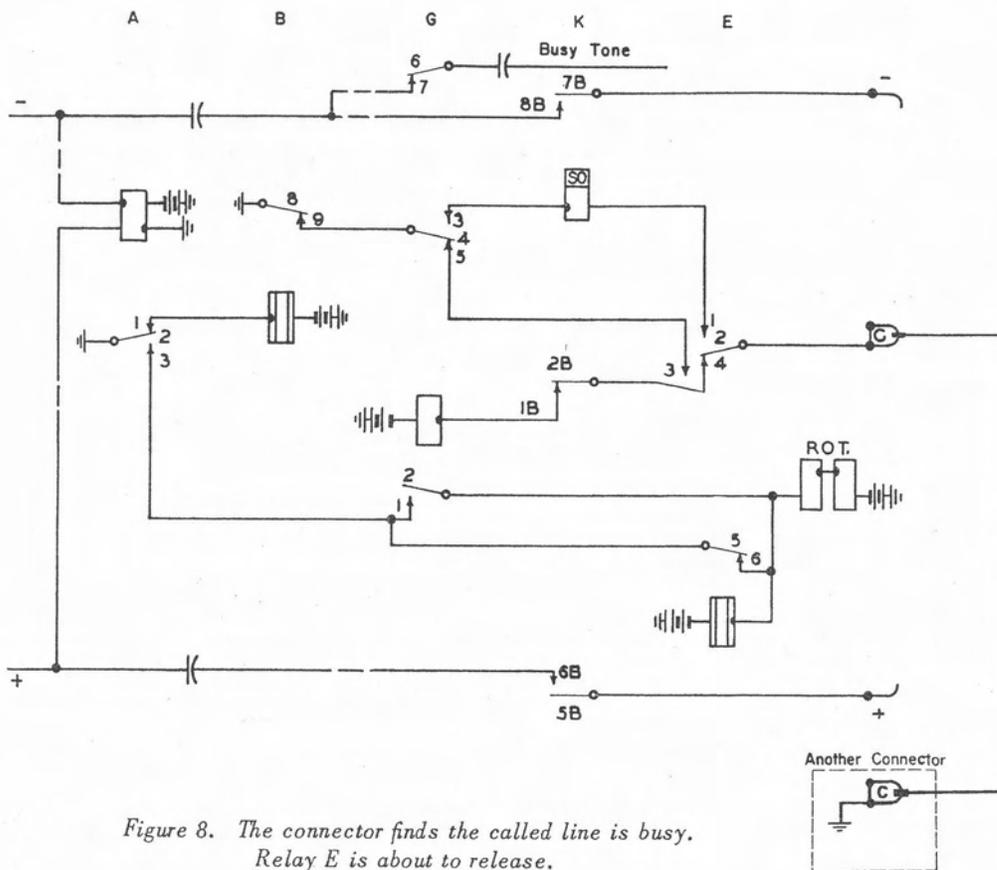

Figure 8. The connector finds the called line is busy. Relay E is about to release.
**13.1 Called line busy (figure 8).** The last rotary step puts the wipers at the called line. At a busy line, wiper C finds ground from another connector, and relay G operates. Relay G contacts 4-5 prepare a locking circuit, and contacts 6-7 send the caller busy tone. (The first selector has already started the busy-tone generator-and-interrupter, figure 11.) After
a moment, relay E (figure 8) releases, contacts 3-4 make before contacts 2-4 break, permitting relay G to lock. Relay G contacts 3-4 prevent relay K operating if the called line were to be freed before the caller hangs up. Altho the wipers rest on bank contacts of the called line, they stand "dead" at relay G contact 3 and at relay K contacts 7B and 5B; notice that there is really no connection to called line.